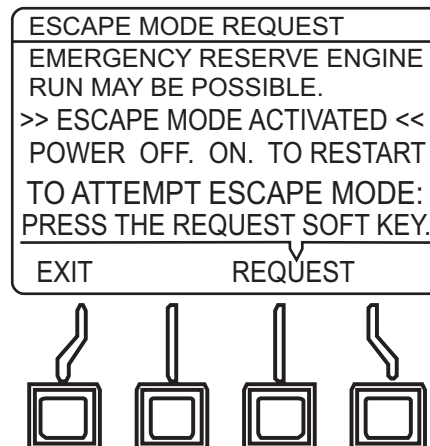

Figure 83. Escape Mode Activated Screen
- Once the **[REQUEST]** button has been pressed, the display will indicate that escape mode has been activated (Figure 83).